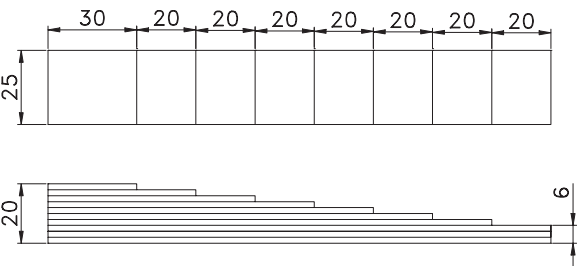

Fig B-1. Formation of a step-wedge from 2.0 mm aluminium strips glued together
- Cut to lengths of 30, 50, 70, 90, 110, 130, 150, 170, 170, and 170mm. When glued together as shown, they will form a 20mm high stepwedge. **See Fig B-1**